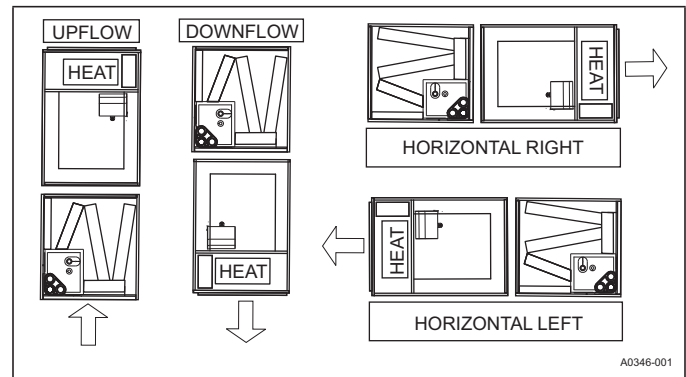

FIGURE 2: Typical Installation
The air handler units are supplied ready to be installed in an upflow, downflow, horizontal right, or horizontal left position. See Figure 2. The unit requires no conversion procedures.
3. Position the blower casing over the appropriate coil opening (depending on configuration). See Figure 2.